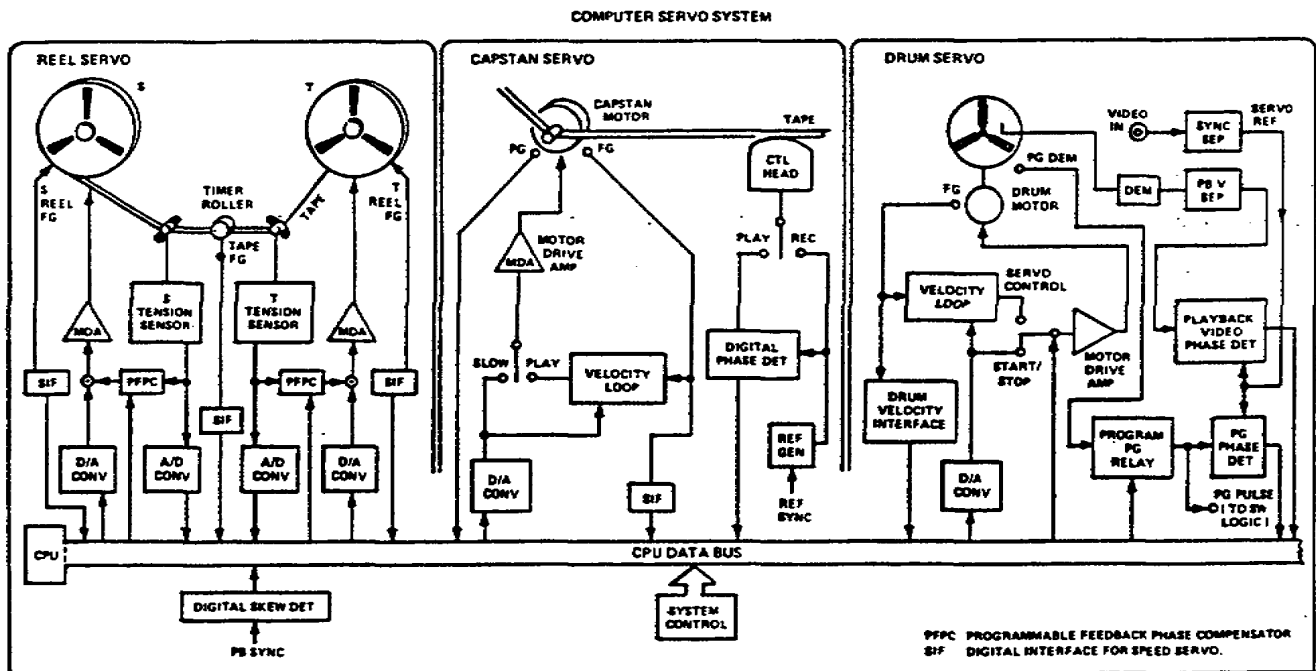

Figure 1-8. Block diagram of servo signal source
e. The servo frequency is a combination of two or more frequencies (fig 1-8). Either or both may be variable, and this combination of frequencies is used to control the speed of the head drum motor.